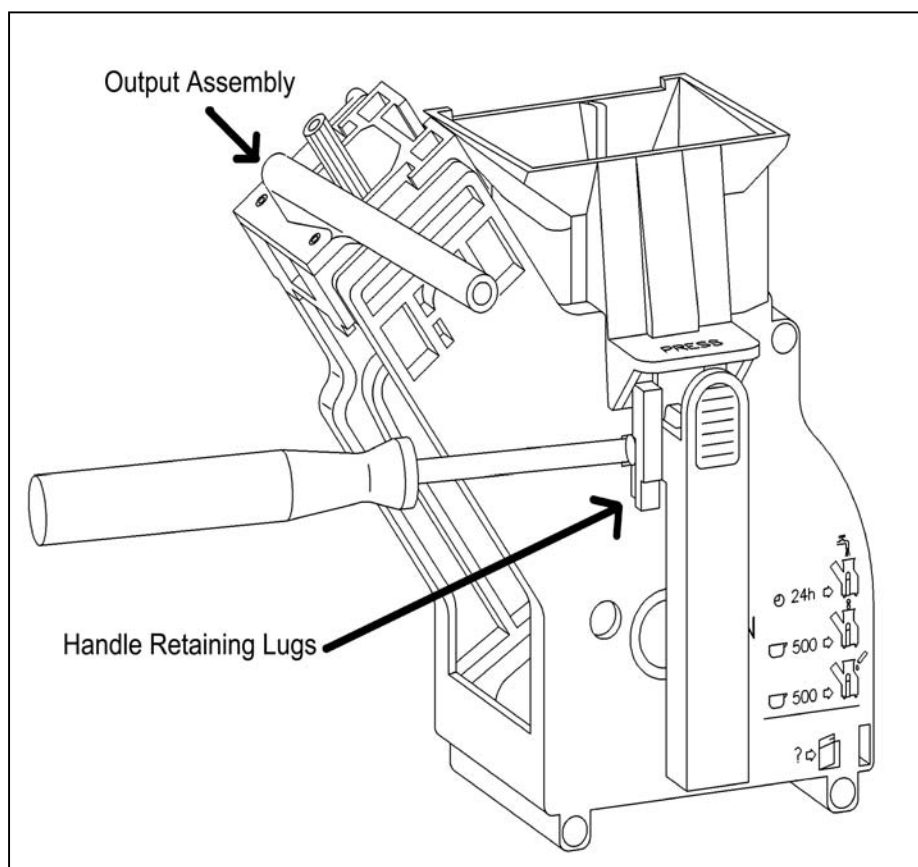

Figure 5-26: Brew Unit; highlighting the output assembly (covering the Creamer Valve) and retaining lugs for securing the handle to the Brew Unit body.
2. Press the handle retaining lugs inwards (Figure 5-26).